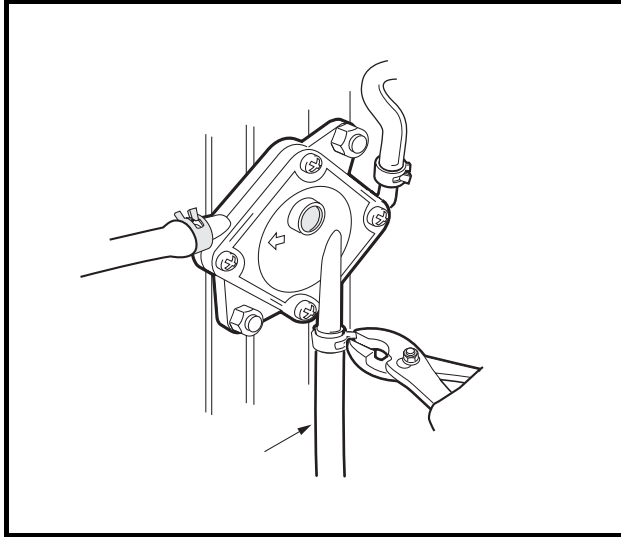

Figure 18-50 Impulse Line
27. Connect the impulse line to the fuel pump and secure it with the hose clamp (**Figure 18-50, Page 18-18**).